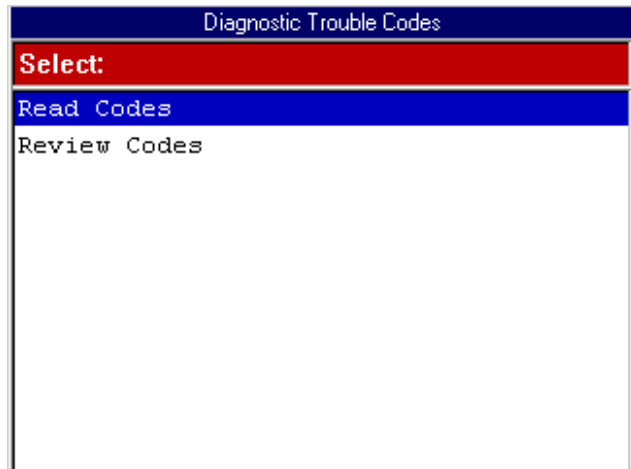

Figure 5.8: Diagnostic Trouble Codes Menu Screen
- 1 From the Diagnostic Menu screen, select **Diagnostic Codes** and press the **ENTER** key. This displays the Diagnostic Trouble Codes menu screen (see figure 5.8 on page 57).